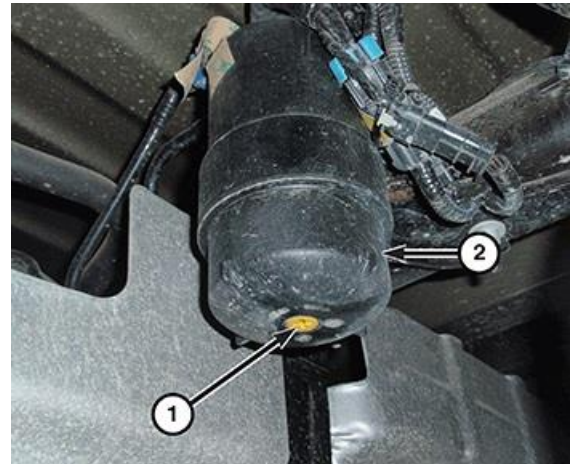

Figure 78 – Fuel Filter Drain Plug
25. Loosen the drain plug (1) and drain the fuel filter/water separator (2) into a suitable container (Figure 78).
26. Securely tighten the drain plug (1) (Figure 78).
27. Using a commercially available oil filter strap wrench, remove the filter cover (2) and the fuel filter (Figure 78).